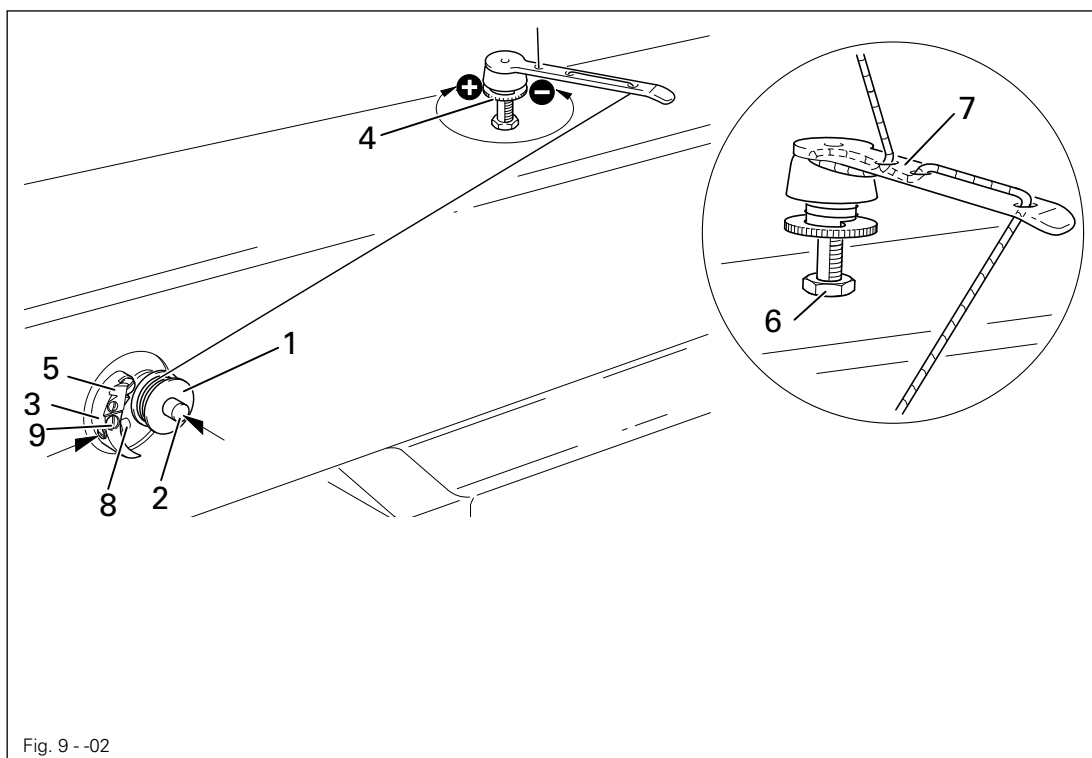

Fig. 9 --02
- Thread in the thread as shown in Fig. 9 - 02 and wind it round the bobbin 1 a few times in an anti-clockwise direction.